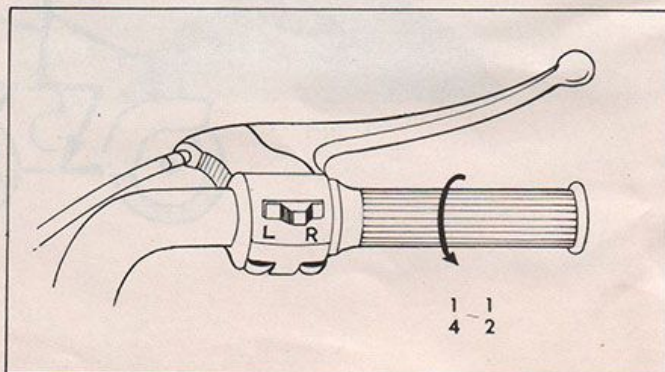

Fig. 9
b) Hold the throttle open $\frac{1}{4}$ to $\frac{1}{2}$ turn (Fig. 9) and push down on the kick starter crank with your foot.